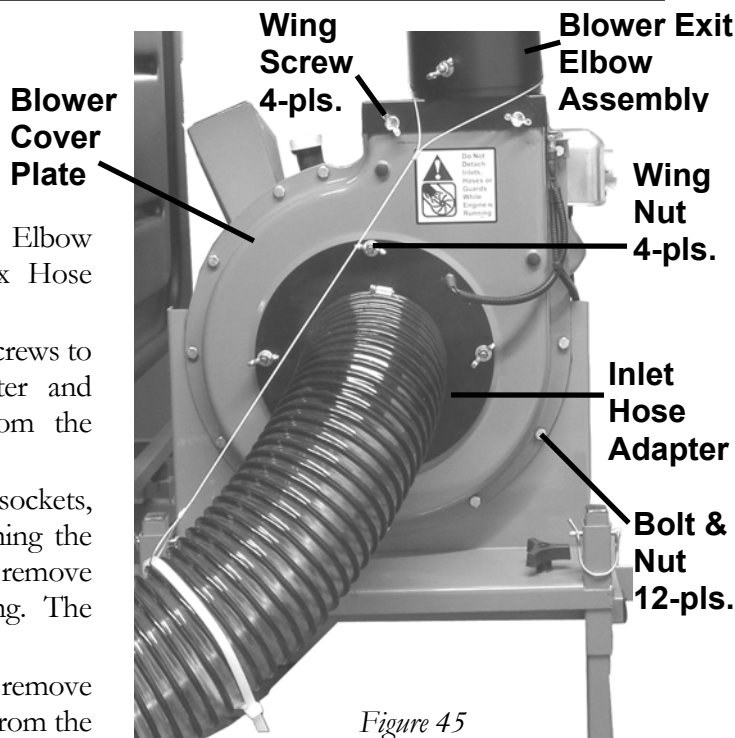

Figure 45
2. Remove the Wing Nuts and Wing Screws to disconnect the Inlet Hose Adapter and Blower Exit Elbow Assembly from the Chipper/Blower unit (*Figure 45*).
3. Using two (2) 1/2" wrenches or sockets, remove the 12 Bolts & Nuts retaining the Blower Cover Plate (*Figure 45*) and remove the plate from the blower housing. The Chipper Impeller is now exposed.